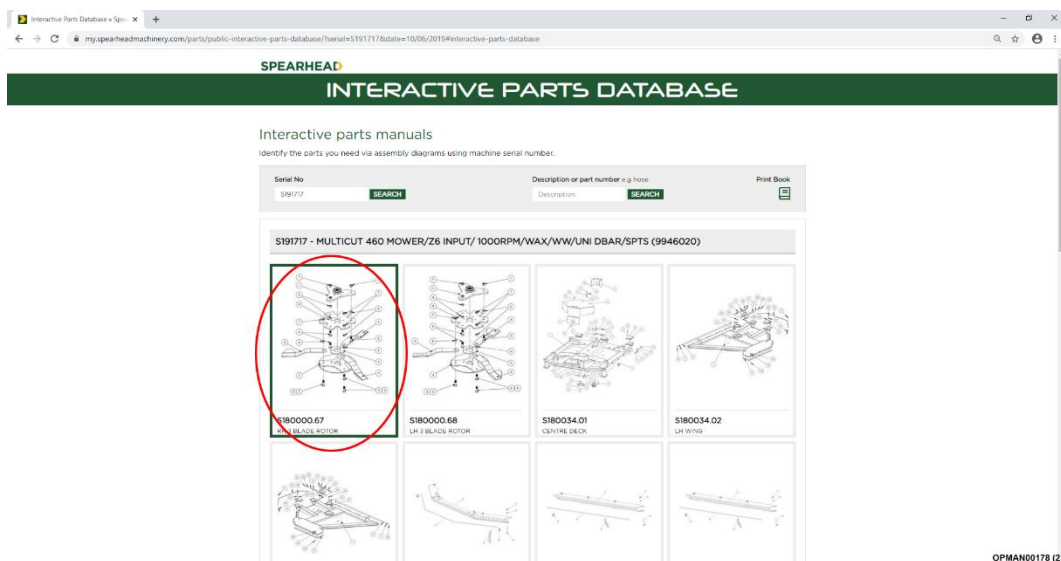

Figure 22 – Click On Assembly
7.2.1.3 After clicking on the serial number a full parts breakdown, specific to the machine serial number will appear showing the various parts and assemblies of the machine. Click on the specific assembly picture required; see Figure 22.